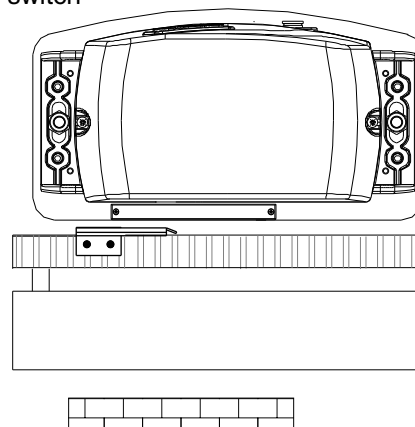
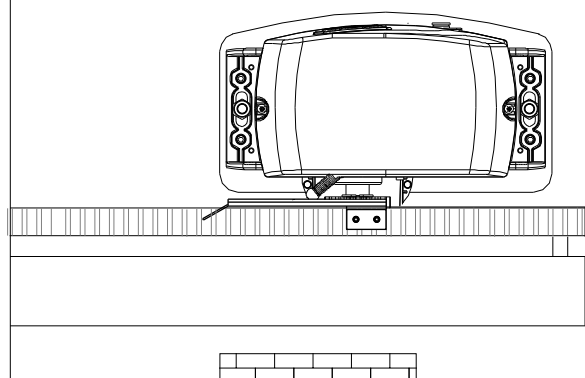

Fig. 13
Fig. 12
- Place the small plate on the gear rack so that the limit switch is (small lever in case of mechanical limit switch (Fig. 12); small pointers placed on the upper part in case of inductive limit switch (Fig. 13)) in correspondence of point X which is placed 50 mm from the folded side of the small plate (Fig. 14) and fix it with the delivered screws (Fig. 15 - Fig. 16).